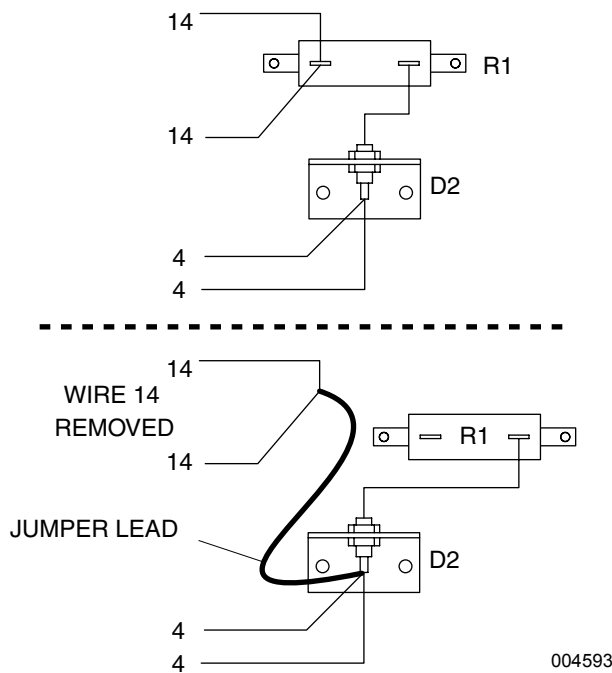

Figure 4-5. Fixed Excitation Test/Rotor Amp Draw Test
5. See **Figure 4-5**. Connect a jumper wire between the removed end of wire 14 and wire 4 where it is soldered at diode D1.